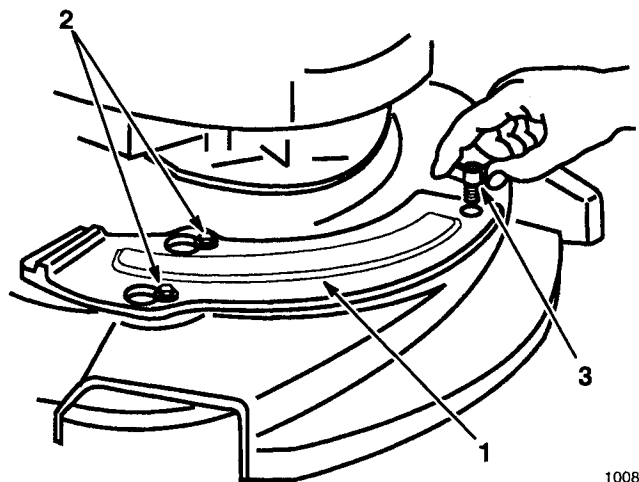

Figure 47
3. Two shoulder bolts on the housing protrude through slotted holes in the mulch plate and do not have to be loosened or removed (Fig. 47). Mulch plate moves over the shoulder bolt heads.
5. Secure with wing screw (Fig. 47).